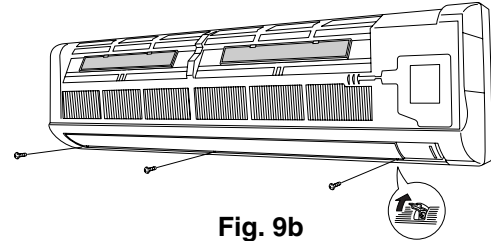
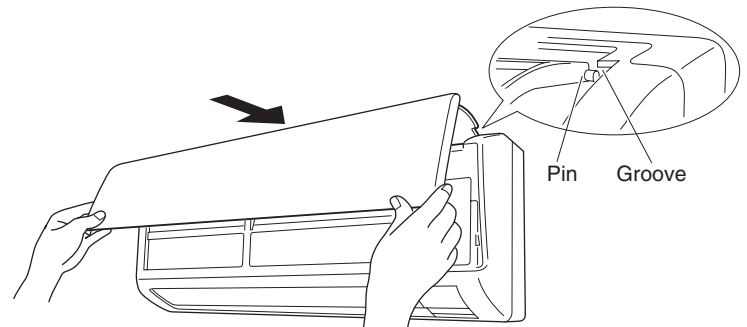

Fig. 9b
Fig. 12a
- (2) Remove the 3 screws. (Fig. 9b)
- (6) Pull the grill toward you to remove it. (Fig. 12a)
- (5) Affix the grille with the 3 previously removed screws. (Fig. 9b)
- (6) Install the air intake grille.
- (a) Allow the edge of the air intake grille to slide into the top of the indoor unit, and then insert it all the way inside. (Fig. 12a)